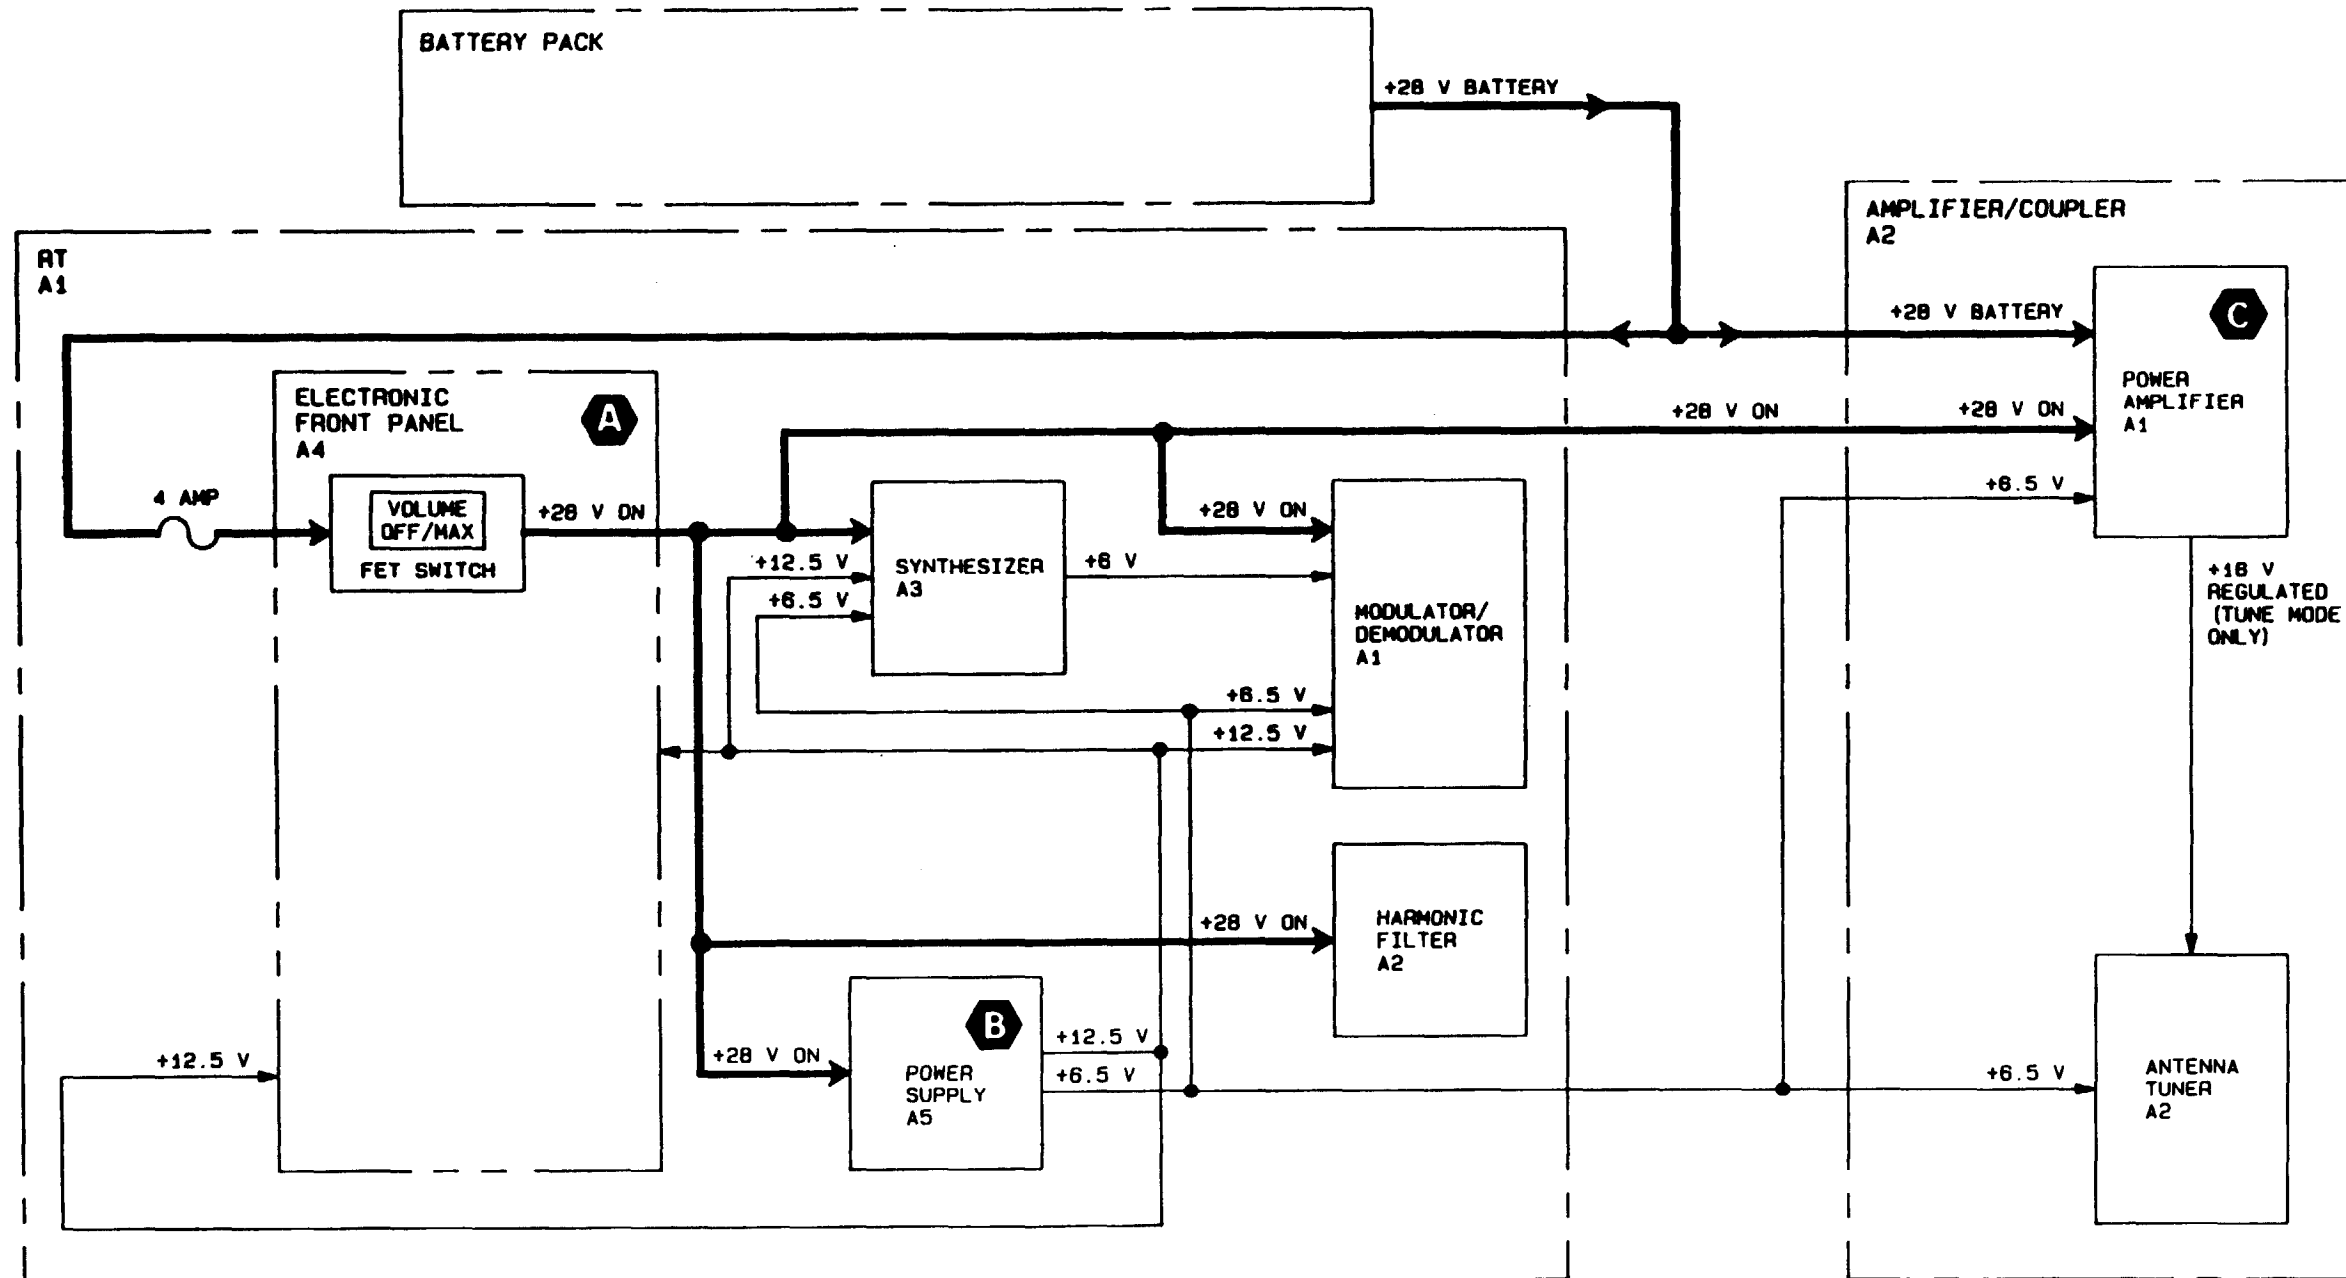

Figure 2-20. Power Distribution Description
**POWER DISTRIBUTION DESCRIPTION, fig 2-20**